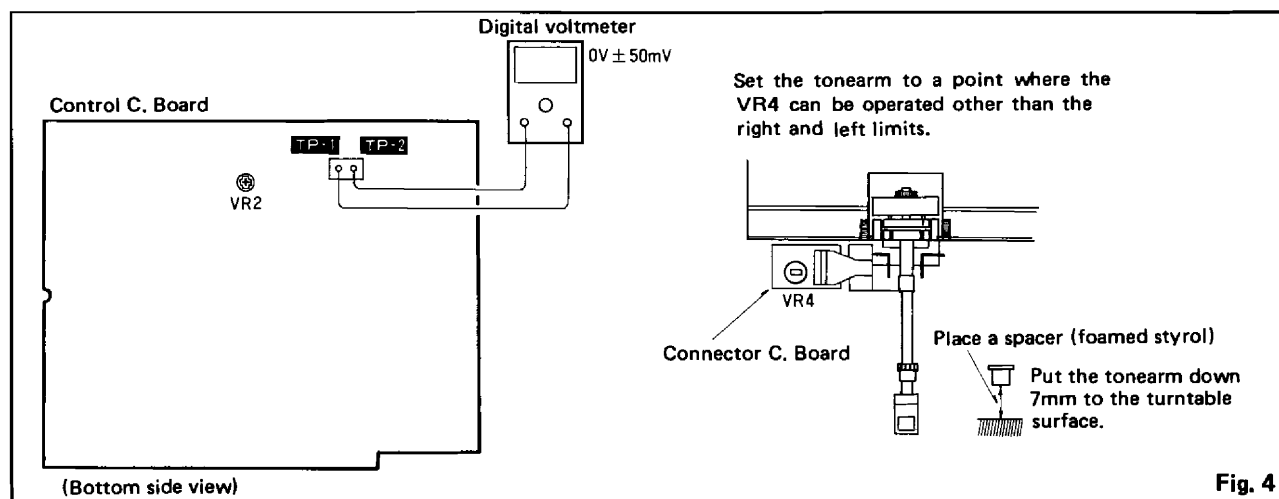

Fig. 4
- As in Fig. 4, set the tonearm down to the position less than 7mm from the tonearm rest by the Down SW.